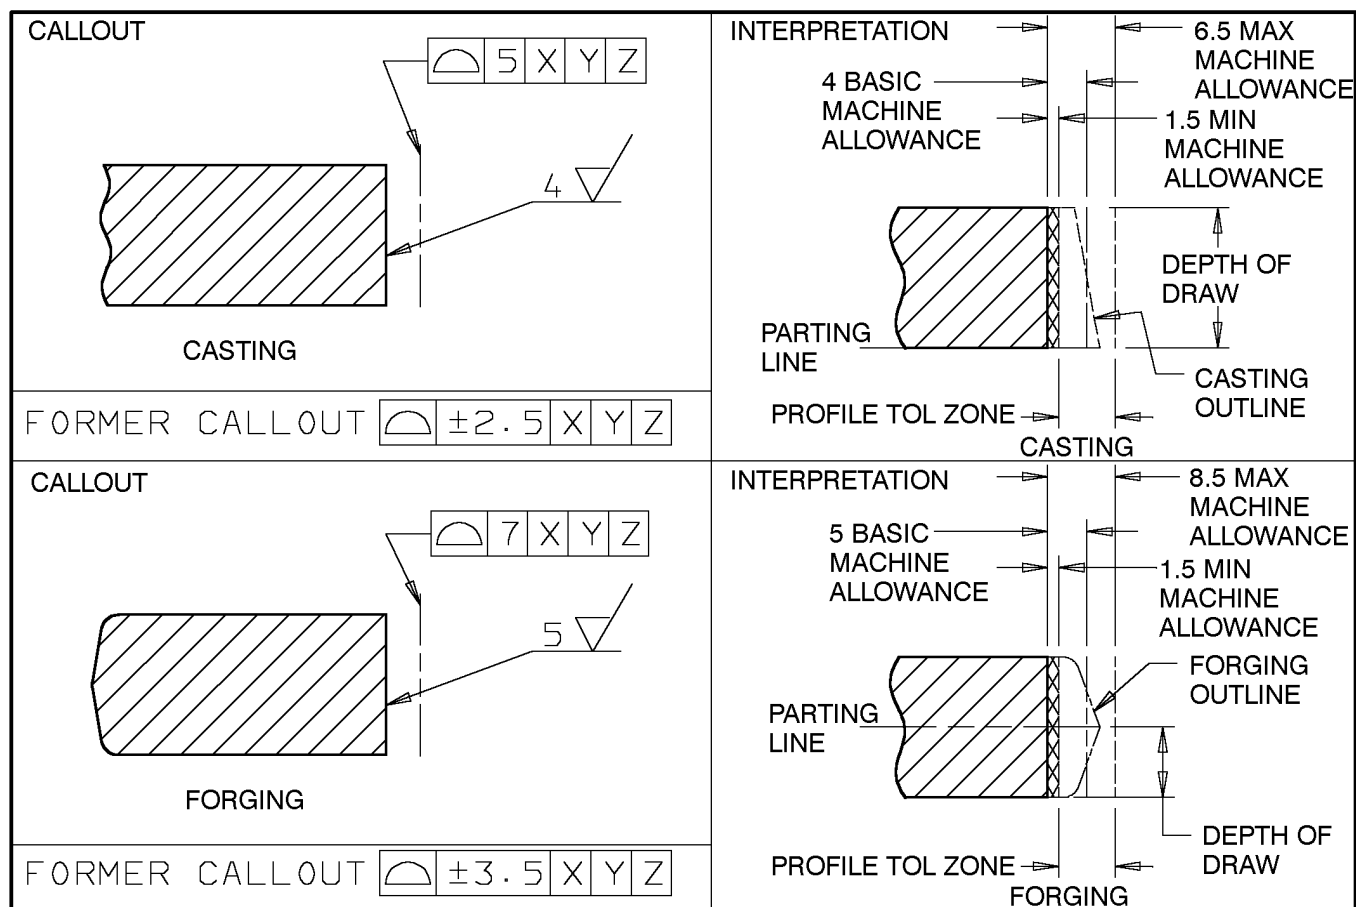
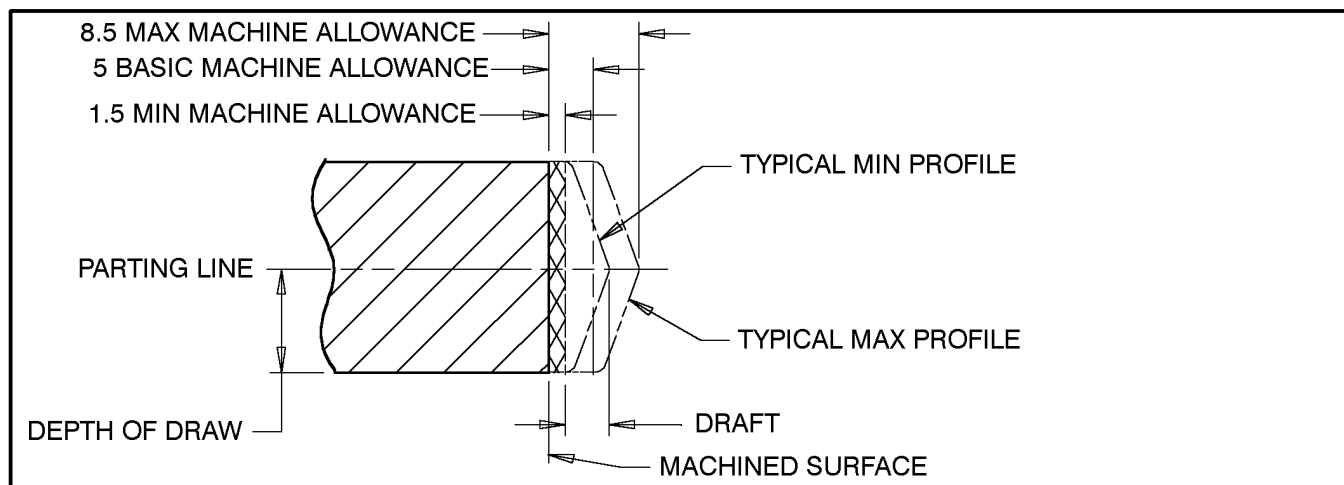
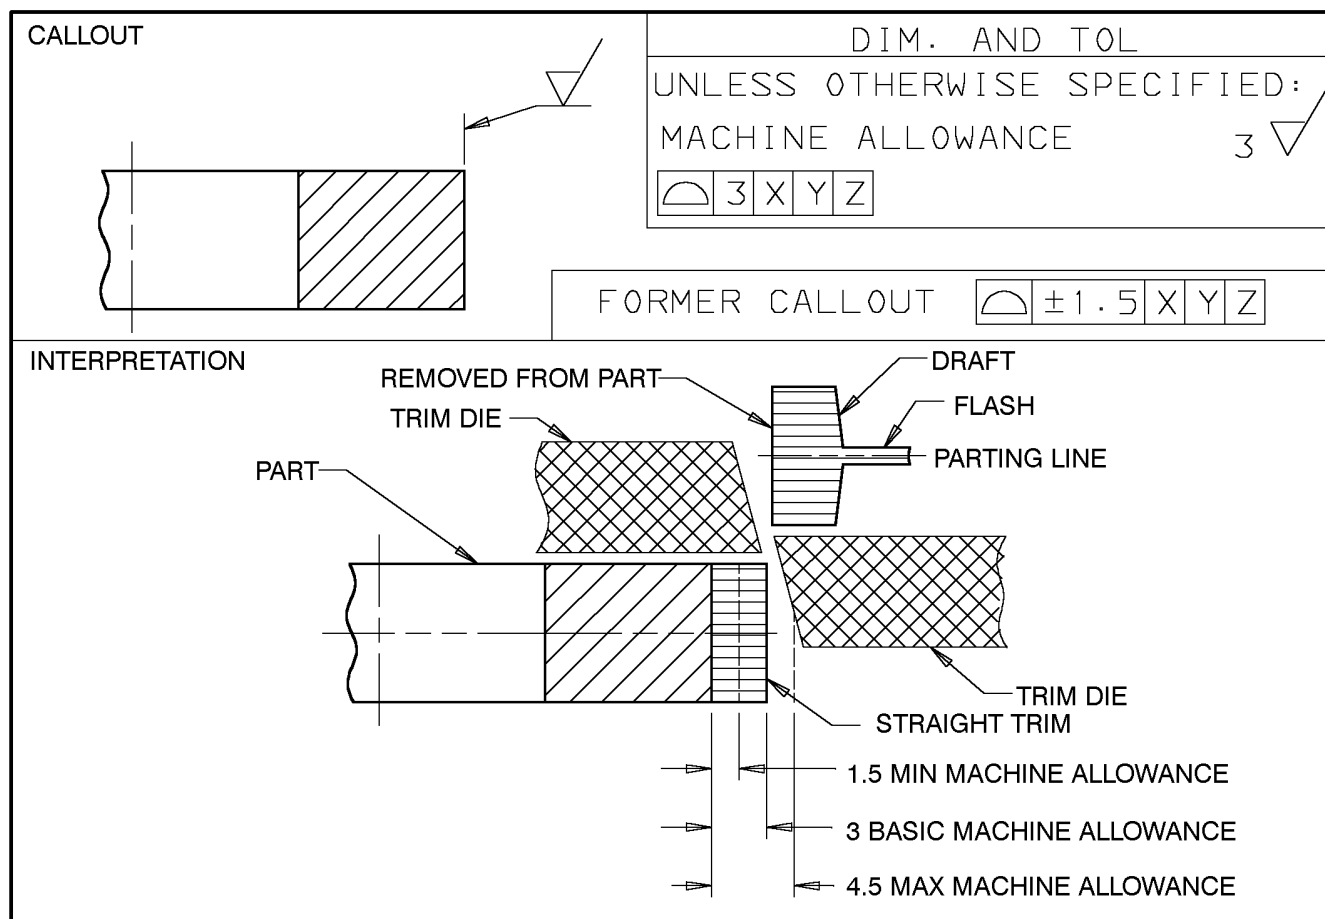

Figure 11 - Machine Allowance - Drafted Surface (Parted Perpendicular to Machined Surface)
Figure 12 - Graphic Illustration of Machine Allowance on a Drafted Surface
Figure 15 - Machine Allowance - Forging Draft Removed - Parted Surface
**10.3.1** In Figure 11, the callout used to indicate machine allowance for drafted surfaces on both castings and forgings consists of three elements as follows: (1) A machine allowance, (larger than the general machine allowance value in the **DIM AND TOL** block) shown preceding the machining required symbol, (2) A phantom line shown parallel to the machined surface, and (3) A special profile tolerance, (larger than the tolerance in the **DIM AND TOL** block) attached to the phantom line. Whenever these three conditions are shown in combination on the drawing, the surface so identified may be drafted with the draft included in the profile tolerance zone. The callouts show a 5 mm machine allowance with a 7 mm profile tolerance for the forging and a 4 mm machine allowance with a 5 mm profile tolerance for the casting to illustrate that forgings normally require more draft than castings.
**10.3.3** Figure 12 graphically illustrates typical forging shapes for the forging in Figure 11. Machine allowance on the drafted surface is  $5 \pm 3.5$  mm. Machine allowance and profile tolerance for a drafted surface consists of three elements as follows:
**10.5.1** Basic machine allowance values on parted drafted surfaces of forgings as illustrated in Figures 11 and 12, generally provide for normal forging trim. Where a machine allowance value that cannot encompass the draft is specified to reduce machining, the forging will require a close trim or in some cases a straight trim as illustrated in Figure 15.
**10.5.2** Figure 15 is a graphic illustration of machine allowance where all draft must be removed from the parted surface to minimize machining.